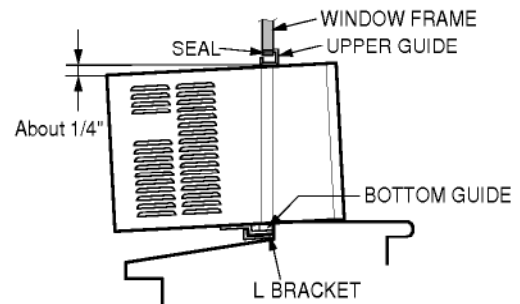

Figure 31
- b. While steadying the air conditioner, carefully bring the window sash down behind the upper guide of the air conditioner, as shown in Figure 31.